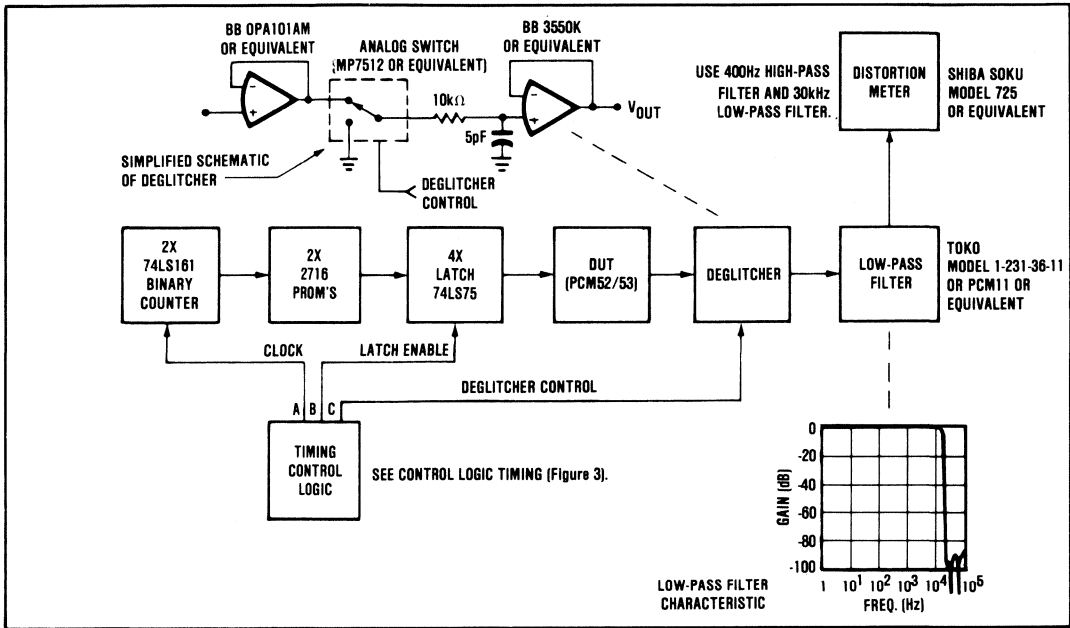
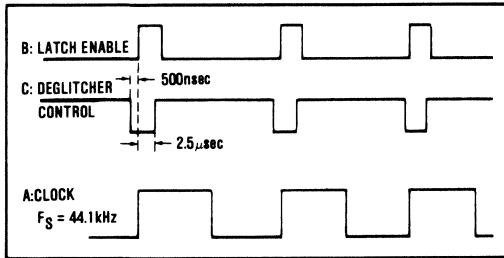

FIGURE 2. Block Diagram of Distortion Test Circuit.
FIGURE 3. Control Logic Timing for PCM52/53 Distortion Test Circuit.
- The measurement of total harmonic distortion is highly dependent on the characteristics of the measurement circuit. A block diagram of a measurement circuit is shown in Figure 2. Burr-Brown may calculate THD from the measured linearity errors using equation (2) in the section on "Total Harmonic Distortion", but specifies that the maximum THD measured with the circuit shown in Figure 2 will be less than the limits indicated.
- Degitcher or Sample/Hold delay used in THD measurement test circuit. See Figures 2 and 3.
The THD is defined as the ratio of the square root of the sum of the squares of the values of the harmonics to the value of the fundamental input frequency and is expressed in percent or dB. A block diagram of the test circuit used to measure the THD of the PCM52/53 is shown in Figure 2. A timing diagram for the control logic is shown in Figure 3.